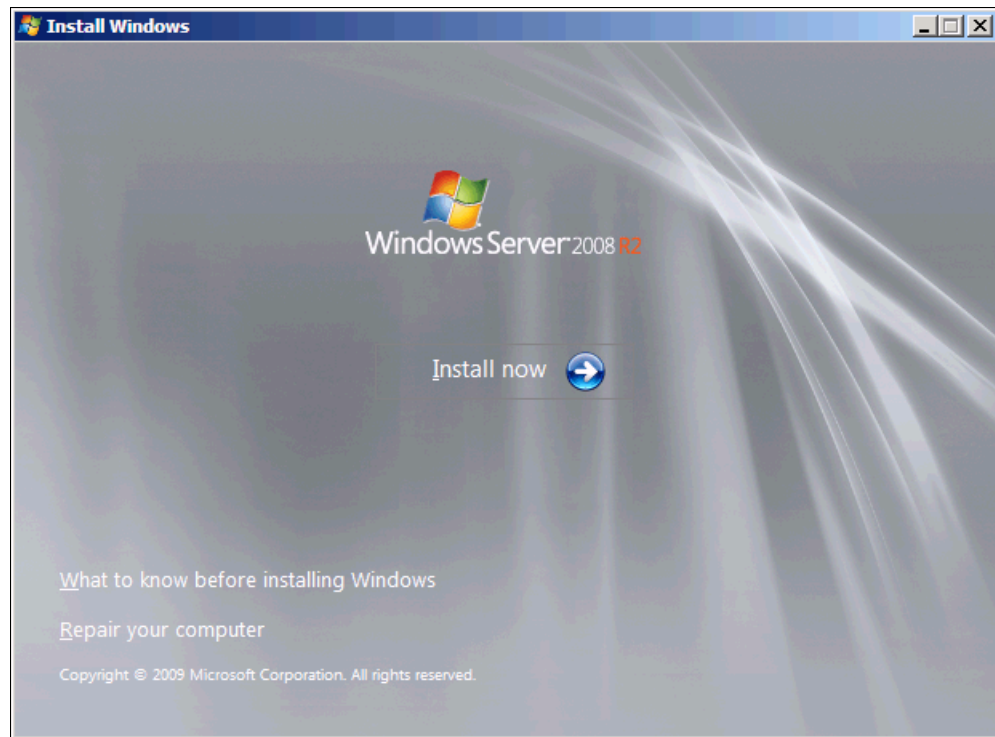

Figure 9-164 Install now button
8. In the Windows installation window (Figure 9-164), select **Install now**.